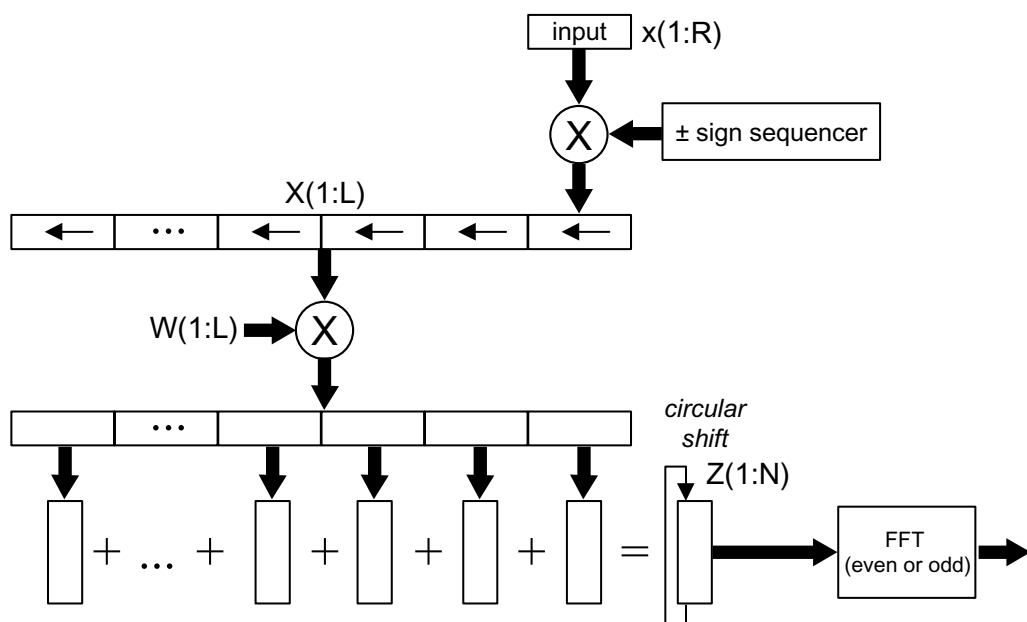

Figure 7: Analysis operation. N is the FFT size.
During analysis, the WOLA filterbank processes data from the input FIFO, R samples at a time. Data from the input FIFO are multiplied by a prototype analysis filter (W) with L coefficients. The windowed input data (L samples) are then “folded” and added. A circular shift is applied to the resulting buffer and an N -point FFT (in even or odd stacking) is computed. The sign sequencer ensures that the basis functions are continuous in odd stacking mode. Figure 7 shows a graphical representation of these operations.